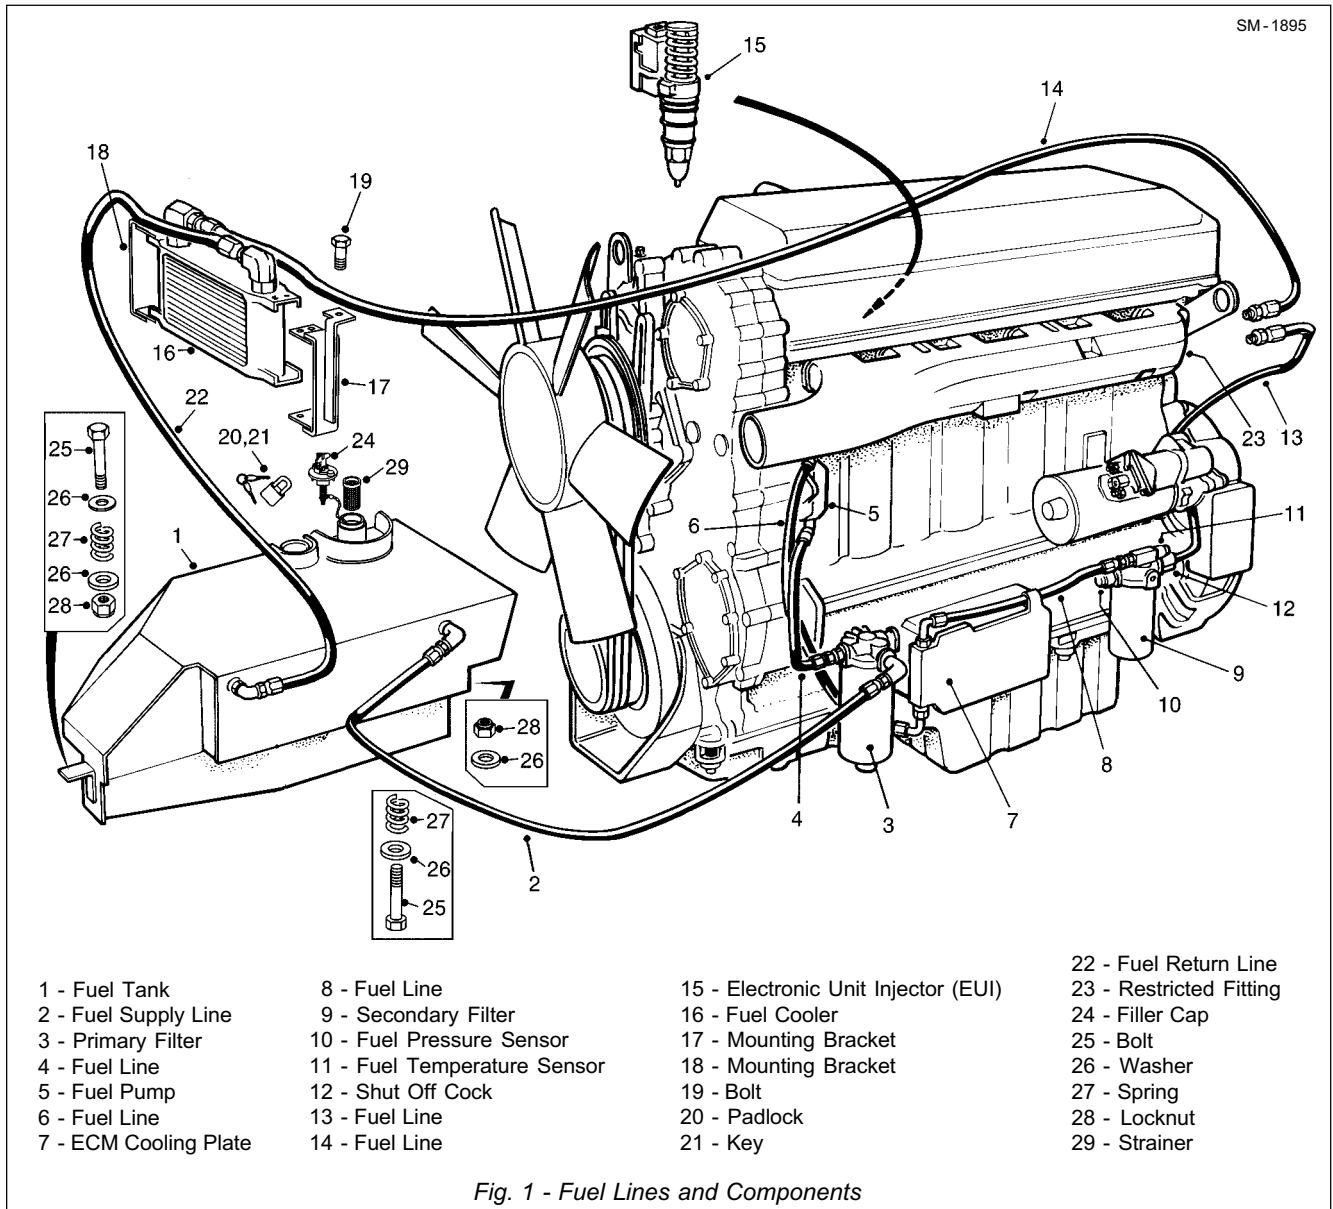

Fig. 1 - Fuel Lines and Components
Numbers in parentheses refer to Fig. 1, unless otherwise specified.
Numbers in parentheses refer to Fig. 1.
2. Using suitable lifting equipment, position fuel tank (1) assembly in the tractor frame.
3. Secure the front of fuel tank (1) assembly to the tractor frame with bolt (25), washer (26), spring (27), washer (26) and locknut (28), as shown in Fig. 1. Tighten locknut (28) until spring compresses to a length of 31.75 mm (1.25 in).
4. Secure the rear of fuel tank (1) assembly to the tractor frame with bolts (25), washers (26), springs (27), washers (26) and locknuts (28), as shown in Fig. 1. Tighten locknuts (28) until spring compresses to a length of 31.75 mm (1.25 in).
6. If removed, install fuel cooler (16). Refer to Section 210-0100, HYDRAULIC OIL COOLER.
7. Install fuel strainer (29) in fuel tank (1).
8. Fill fuel tank (1) assembly with clean diesel fuel specified in Section 300-0020, LUBRICATION SYSTEM.
9. Install filler cap (24) assembly on fuel tank filler neck. Tighten filler cap (24) securely and secure in place with padlock (20).